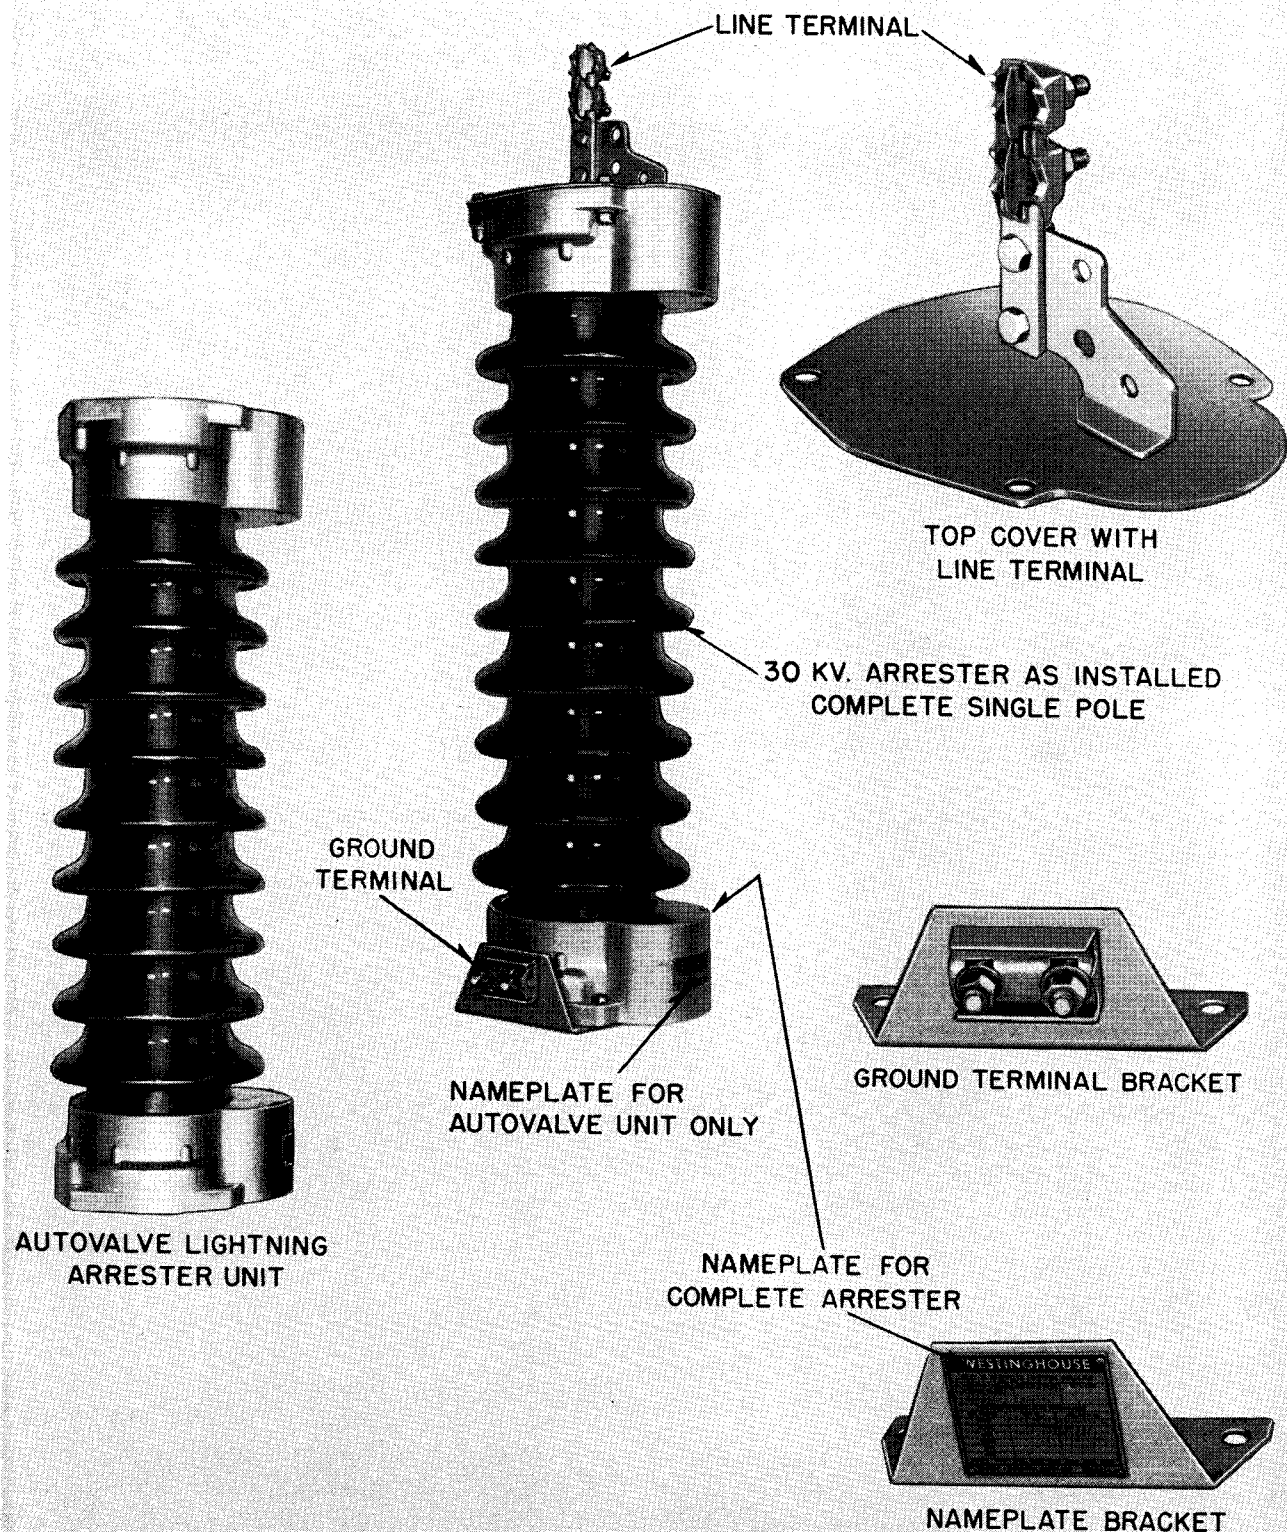

FIG. 1. Typical 30 KV Type SV Autovalve Lightning Arrester, Complete Single Pole and Component Parts.
(b) For arresters of 133 and 145 kv rating; in addition to units described in (a), an extra large unit is used as the bottom unit to give a more substantial base to the complete arrester. The unit nameplate is located on the bottom end casting. Typical arrester units are shown in Fig. 1.
(2) Line terminal and top cover assembly. Fig. 1.
(3) Two angular mounting brackets, Fig. 1, which are used at the bottom of arresters up to and including 121 kv rating. One bracket includes the ground terminal; the other has attached the main arrester nameplate giving the complete arrester identification and rating, as well as the unit ratings used and their position in the complete arrester. In the case of arresters using the extra large arrester unit, as described in (1) (b), these brackets are not furnished. Instead, the ground terminal is furnished separately, along with a small (L) shaped bracket containing the main nameplate.
(4) A grading ring assembly; which may be of one piece or multiple piece construction depending on the rating. Rings are not used with arresters rated 73 kv and lower.